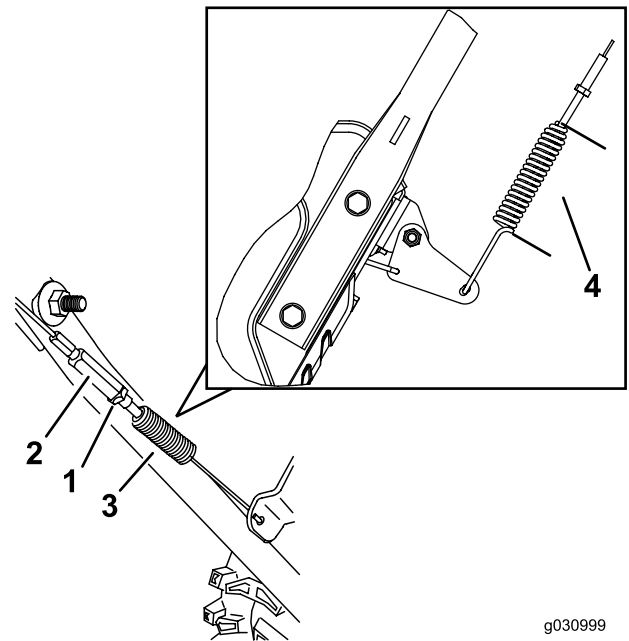

Figure 36
3. Loosen or tighten the turnbuckle to adjust the spring length to 5.5 cm (2–3/16 inches) as shown in Figure 36.
4. Tighten the jam nut (Figure 36), ensuring that there is slight tension on the cable.